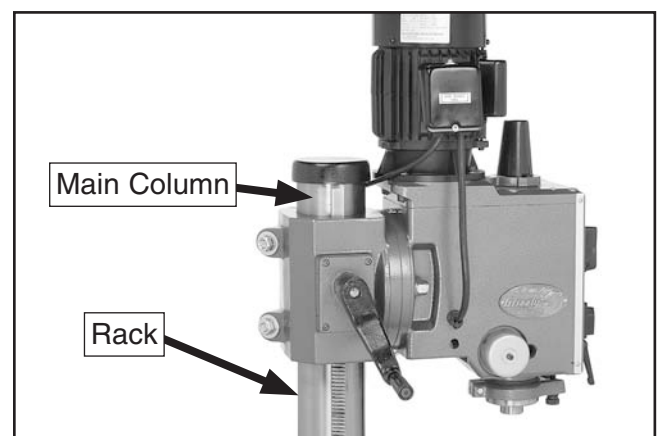

Figure 64. Main column and rack.
1. Use a rag, brush, and mineral spirits to wipe away the old lubricant and built-up grime on the rack and column (**Figure 64**), and move the headstock up and down to ensure all surfaces are clean.